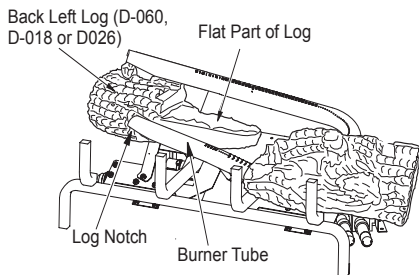

Figure 29 - Installing Back Left Log
- Find the back left log (LMF36-SC and VFGT24 inch models: D-060 or LMF42-SC and VFGT30 inch models: D-018 or LMF48-SC and VFGT36 inch models: D-026). See Figures 29, 29A, and 29B. Figure 29A shows how the log must fit against the end of the burner. Figure 29B shows how the notch in log fits against the vertical portion of the burner tube. Place this log on the base assembly by inserting it from the left side as shown in Figure 19. You will need to twist the log slightly to get it to fit against the burners properly. It will rest even with the back edge of the pan.